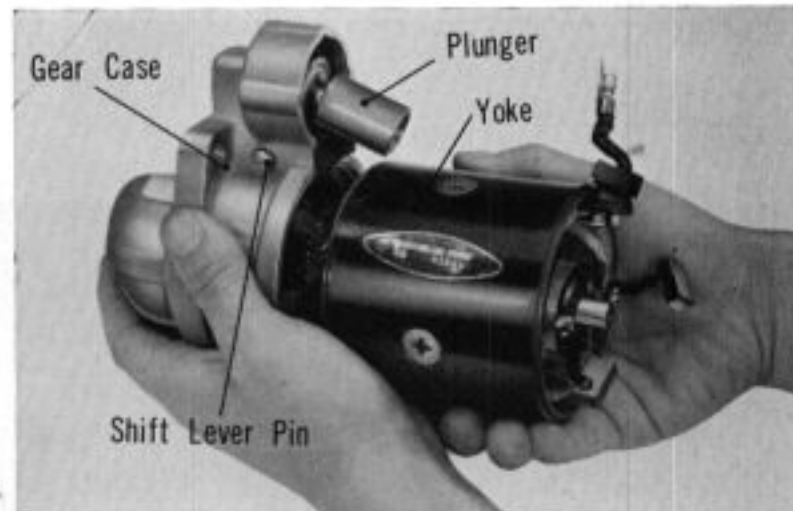

Fig. 17A-29
10. Remove the shift lever pin, and then the plunger from the shift lever. (Fig. 17A-29)